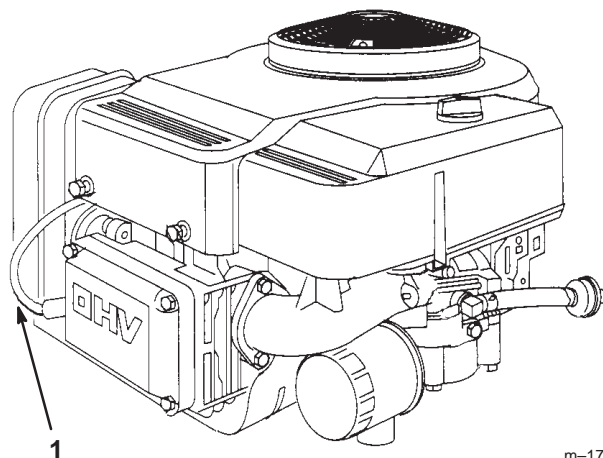

Figure 34
2. Pull the wire(s) off the spark plug(s) (Fig. 34). Clean around the spark plug(s) to prevent dirt from falling into the engine and potentially causing damage.
3. Push the wire(s) onto the spark plug(s) (Fig. 34).